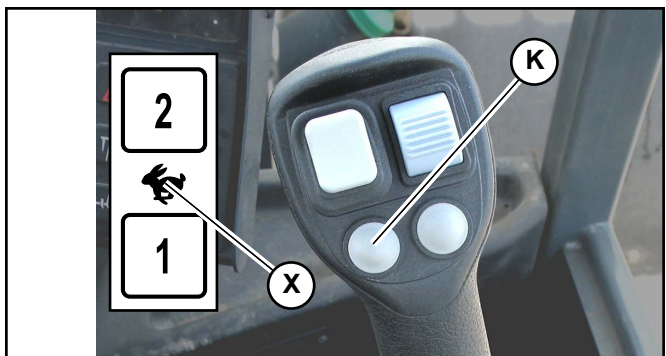

Fig. 83 – Travel Speed Range Selection Button
- Use high/low drive speed button (K, Fig. 83) to select either the high or low drive speed mode, according to the job requirements and work site conditions.
**NOTE:** Additionally, the optional 3-speed (X) feature allows two speed ranges in the high speed mode. Refer to “3-Speed Option” on page 113.